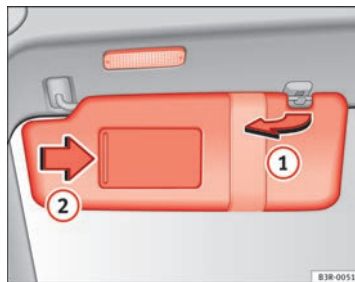

Fig. 98 Sun visor
The sun visors ① for the driver and the front passenger can be pulled out of their mountings in the centre of the vehicle and turned towards the doors ⇒ fig. 98.